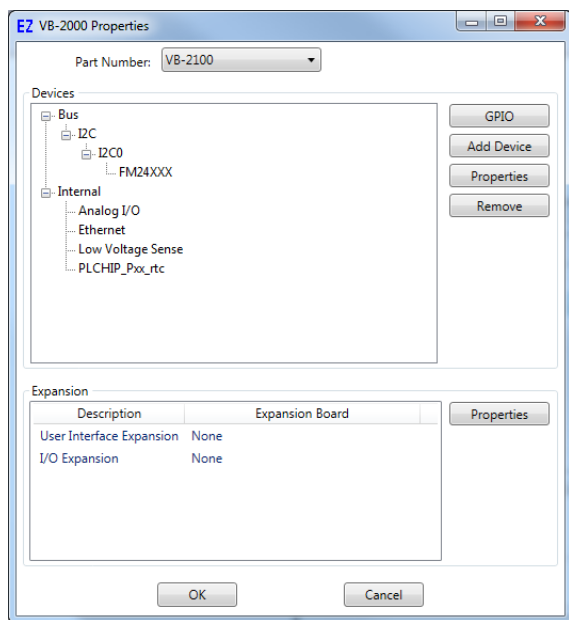

Figure 28-1
2. Click the **PROPERTIES** button. The *target's Properties* dialog will open. Refer to Figure 28-1.